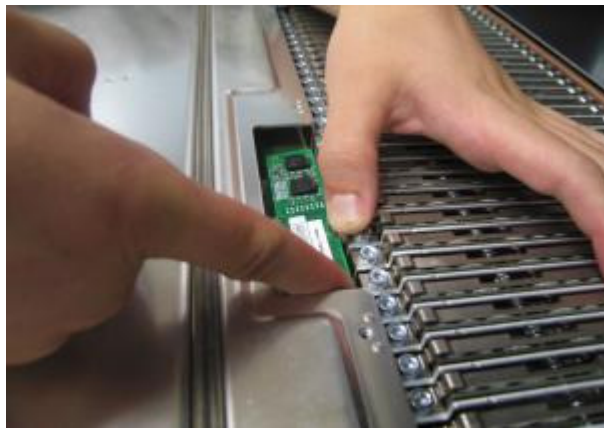

Figure 26 VPD card Removal Continued
STEP 39 Using your index finger pull up on the top right corner of the VPD card so that the card is over top of the tab as seen in Figure 26.